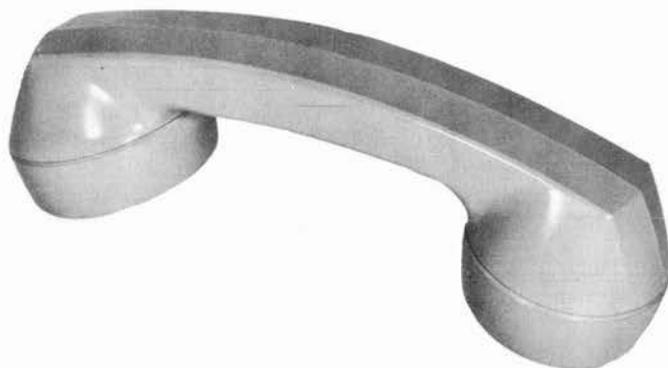

Figure 1. Type 81 or Type 810 Handset.
2.01 The 81 and 810 handsets are identical in external appearance (see Figure 1). All of the molded parts are thermoplastic material. Handset components (except cords) are shown in Figures 3 and 4. Handset numbers, telephone set used on, and replacement handset cord numbers are given in Table 1.